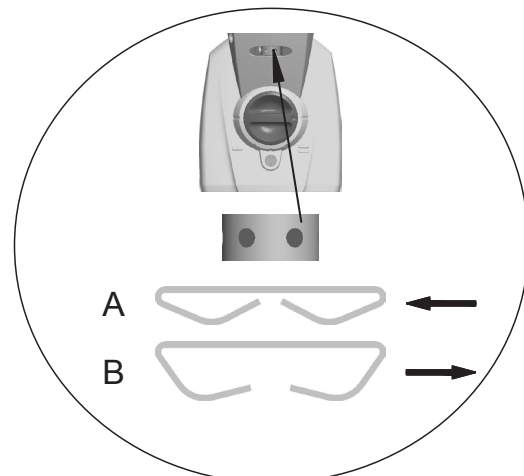

Fig. 7
- With a small screwdriver turn the adjusting nut behind the slot (Fig. 7/1). Turn clockwise to close the clinch (7/A). Turn the adjusting nut anticlockwise to open the clinch (7/B).